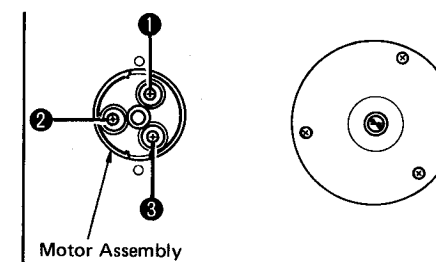

Fig. 4
2. Remove screws 1 to 3 in Fig. 4 and remove the motor assembly.